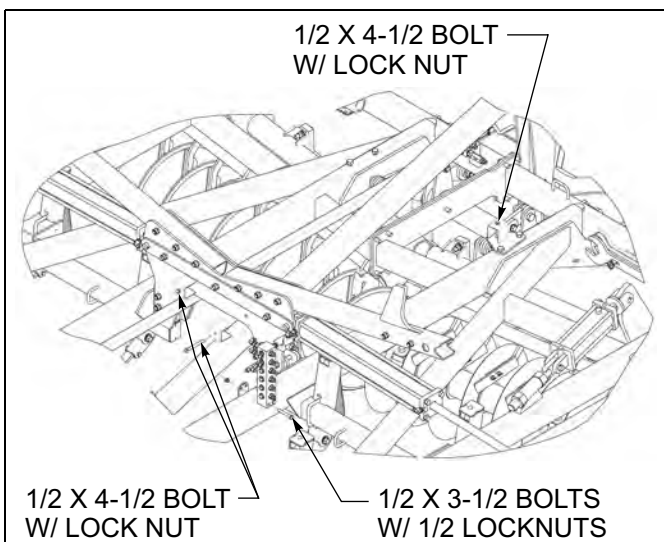

Figure 3-21: 8550 Front Manifold
1. Install the hydraulic manifolds at the center and rear of the center frame to the mounts welded to the frames using 1/2 x 3-1/2 bolts and lock nuts. Loosely install hose clamps as shown with 1/2 x 4-1/2 bolts and lock nuts (**See Figures 3-21 & 3-22.**) On the front manifold, the top two ports are folding, the middle two are for hydraulic gangs, and the bottom two are for the lift system.
5. Secure hoses into the (3) bolt on hose clamps. One is at the front of the center frame and the other two are on the back side of the front set of wing fold cylinder mounting plates (**See Figure 3-21.**)